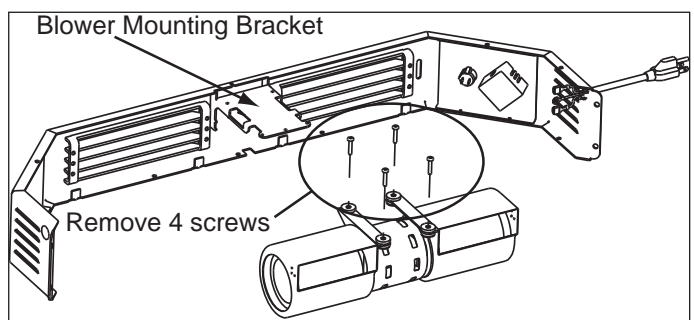

Figure 22.3
4. Remove the 4 blower mounting screws using a Phillips head screwdriver. Slide blower off of blower mounting bracket. **Figure 22.3.**